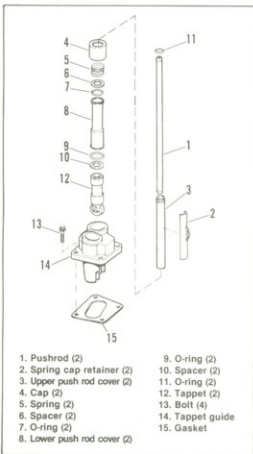

Figure 3-4. Middle Valve Train Components
- Figure 3-4. Remove the push rods (1) and mark their location and orientation top to bottom.
- Remove spring cap retainers (2) on push rod covers and remove push rod covers and associated parts, (Items 3 thru 11, Figure 3-4).